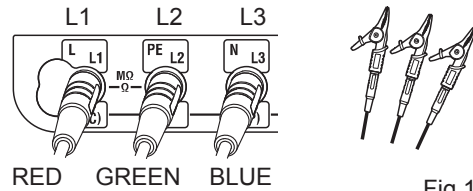

Fig.13-1
2. Insert the test leads into the instrument. (Fig.13-1)